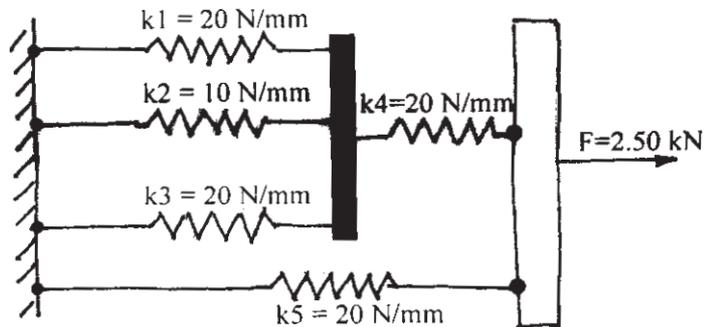

Fig 9.1
- Q9)** a) A system of springs is as shown in fig 9.1. Determine the overall stiffness matrix and the deflections of each of the springs. [8]